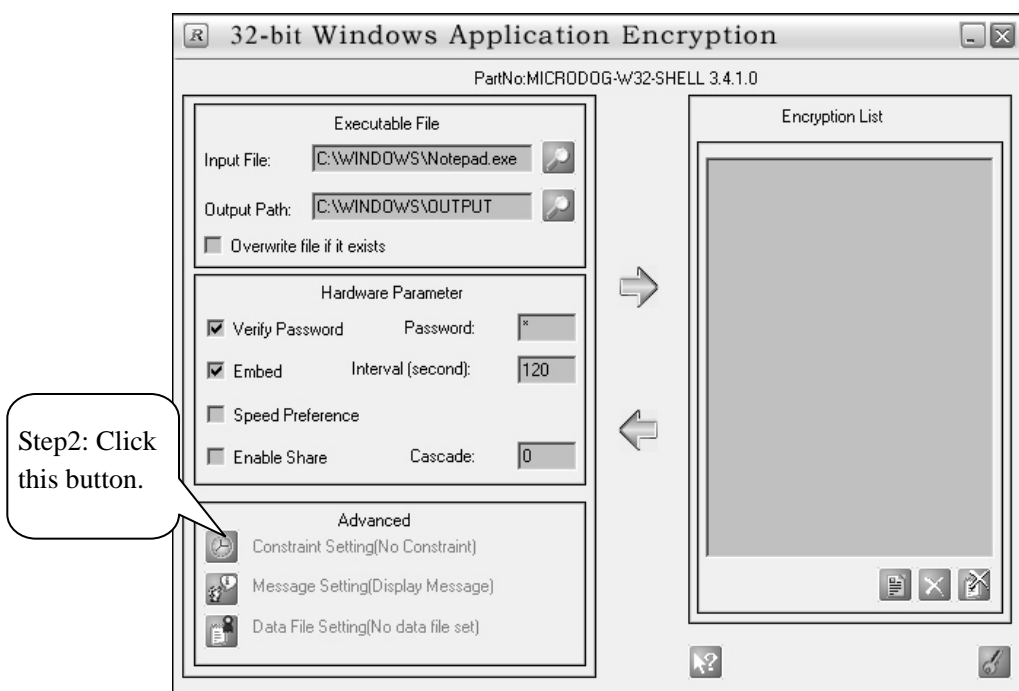

Figure 4-2
3. Following the Step 2, 3, 4, 5, 6 described on the Figure 4-2, 4-3 to set expiration date.